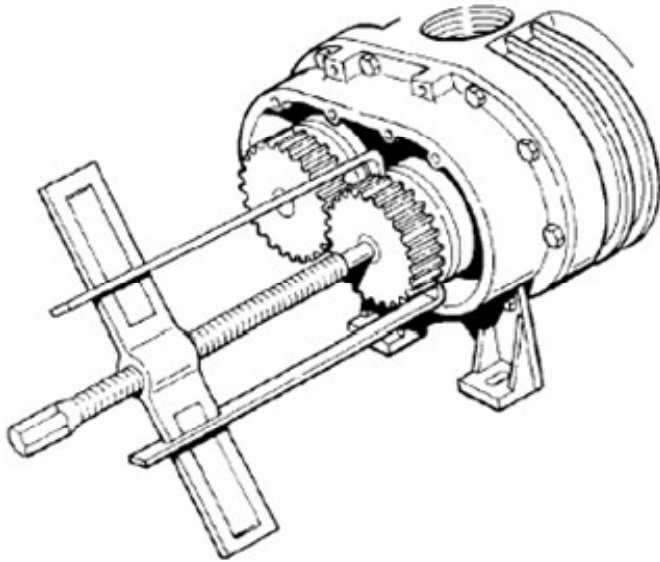

FIGURE 6-3
6. Using a gear puller, remove timing gears. The taper pin should back out with the gear as the gear is being removed (see FIGURE 6-3). Use caution not to damage gear teeth with puller if gears are to be used again.
**Blowers with mechanical seals have two wavy washers (28) located between the bearings and the cover on the drive end.**
7. Remove the socket head cap screws (30) from the drive end bearing cover (29) and remove the cover. Drive shaft oil seal (31) should come free when cover is removed.